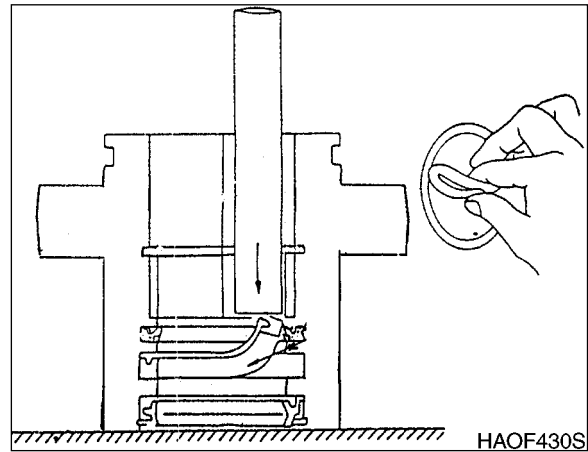

Figure 27
3. Pre-lubricate O-rings and seals before reassembly (Figure 27).